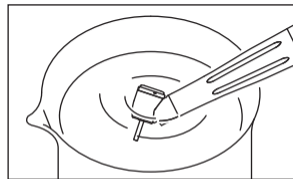

Fig. 6
- 3) While rotating the handpiece immerse the front half of the handpiece head in the water. (Fig. 6)